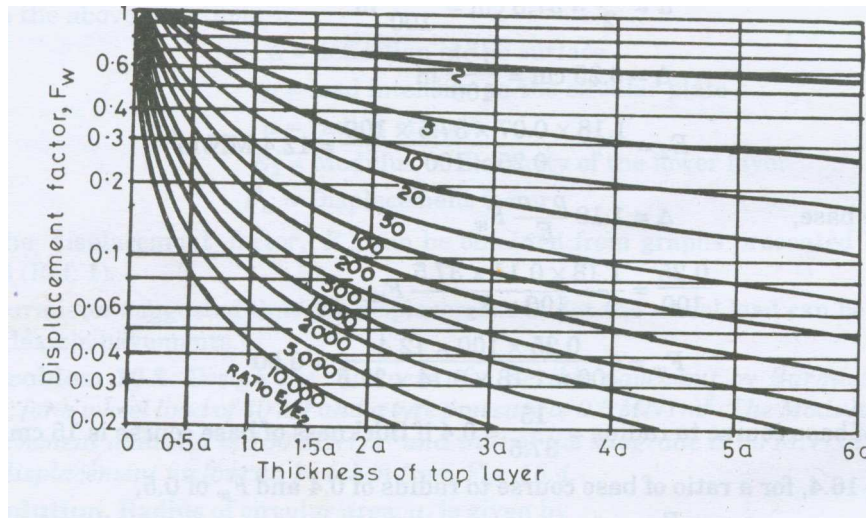

Figure 1:
3. (a) Design thickness of a flexible pavement for 7500 kg single wheel load, 9.1 kg/cm² of tire pressure, if the limiting deflection is 0.120 cm, given the following test results and use below give design chart. (figure 1)